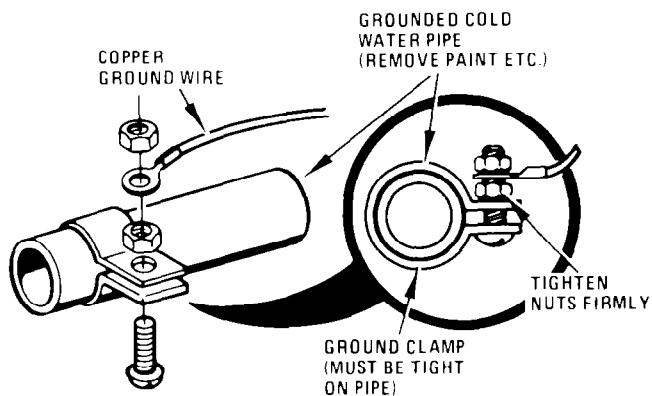

FIGURE 2
B. If used in mobile home or if local codes DO NOT permit frame grounding to the neutral, separate the white and green wires that extend out of the end of the supply cable of the appliance. Connect the white wire from the supply cable to the neutral wire. Connect the black and red wire from the supply cable, matching the colors, to the corresponding wires in the junction box. The green wire must now be used to ground the appliance in accordance with local electrical codes. Connect the insulated green colored copper ground wire to a grounded cold water pipe or to the grounded lead in the service panel. Do not ground to a gas supply pipe. Do not connect to electrical power supply until appliance is permanently grounded. Connect the ground wire before turning on the power (see Figure 2).